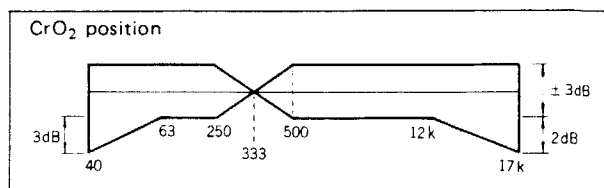

Fig. 12
**3. CrO2 position** (Refer to Fig. 12)